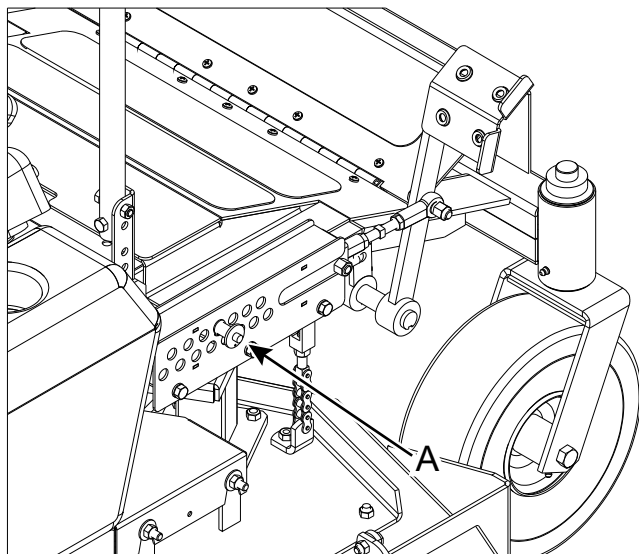

Figure 6
Deck height adjustment can be attained by pressing down on the foot pedal and pulling the cut pin (A) out and repositioning it with the corresponding hole to the depth gauge label (See Fig. 6). Adjustments can be made in 1/4" increments from 1" to 4 1/2".